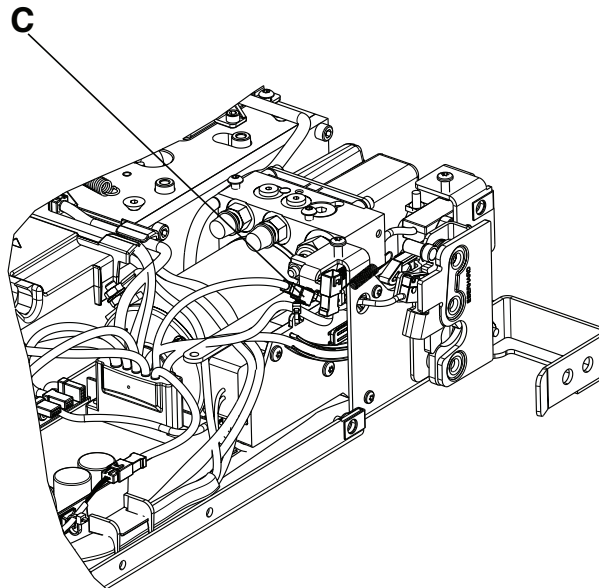

Figure 20 – Main cable assembly
3. Unplug the cable (C) from the trolley actuator to the main cable assembly (Figure 20).